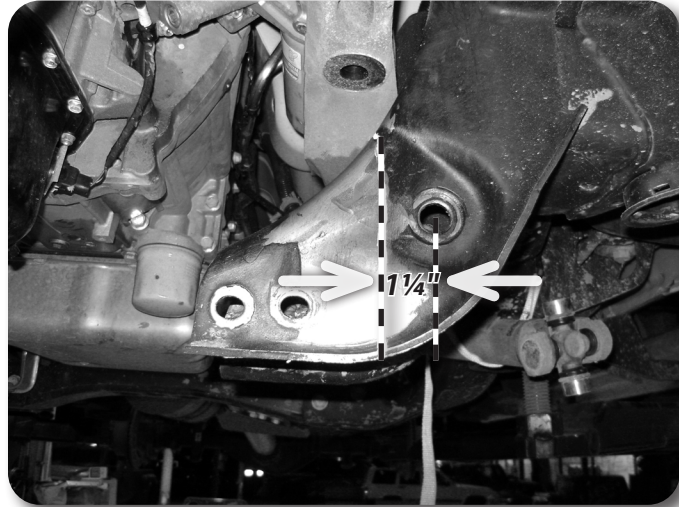

Figure 21A
30. The lower rear driver's side control arm pocket must be trimmed to provide clearance for the front differential. On the front face measure from the center of the control arm mounting hole inward 1-1/4" and mark. **Figure 21A** On the back face measure from the center of the control arm mounting hole inward 2-1/2" and mark. **Figure 21B** Make vertical cut lines at the marks on the front and back